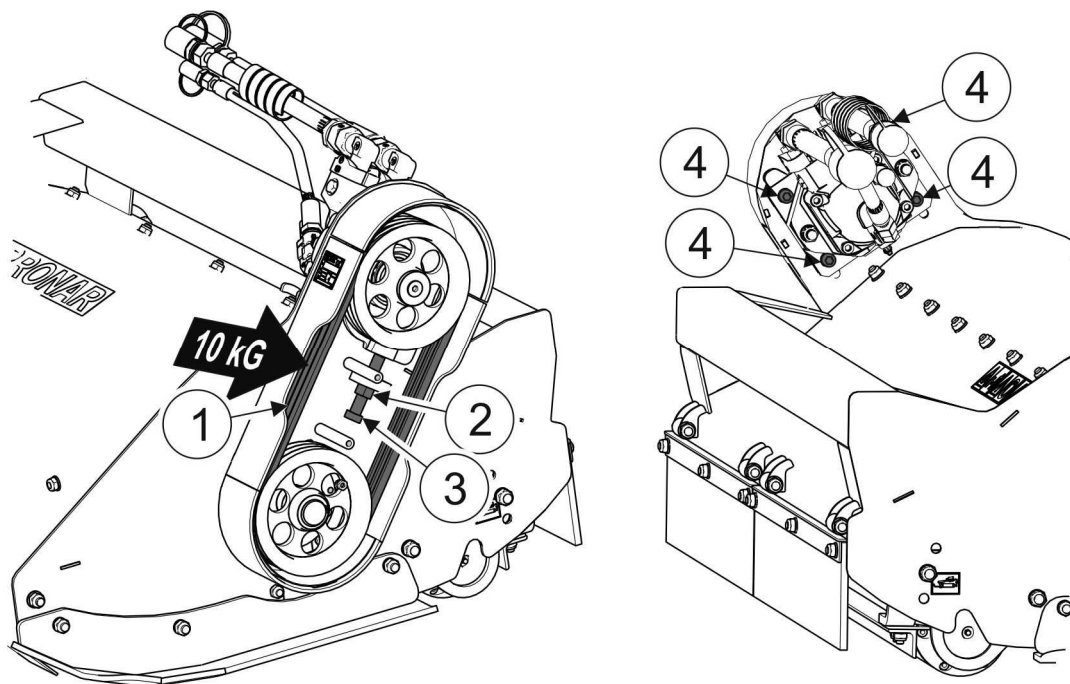

FIG. 5.4 Checking and adjusting tension of vee-belts
Inspection of vee-belts (FIGURE 5.4) involves checking of the belt tension. Deflection of vee-belts measured between transmission's pulleys after application of 10 kG force should not exceed 5 mm. Belts tension may be altered using screw (3) of tensioner. In order to adjust tension of vee-belts, loosen securing nut (2) and bolts (4) that fix the hydraulic motor bracket. After adjustment of belt tension by means of bolt (3), tighten nut (2) and bolts (4) that fix the hydraulic motor bracket. If one of the belts is damaged the whole belt set should be changed. There are 4 SPA-1257 belts in the drive transmission system. To replace the vee-belts, loosen bolts (4) that fix the hydraulic motor bracket and shift the hydraulic motor together with the pulley downwards by means of adjustment bolt (3) until the vee-belts can be removed from the pulley.